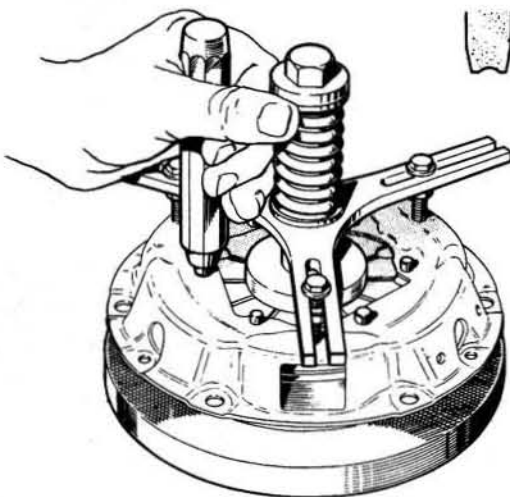

Fig.5.19. Rivet securely with a hand punch
- 30 Peen over the rivets with a hand punch (Fig.5.19).